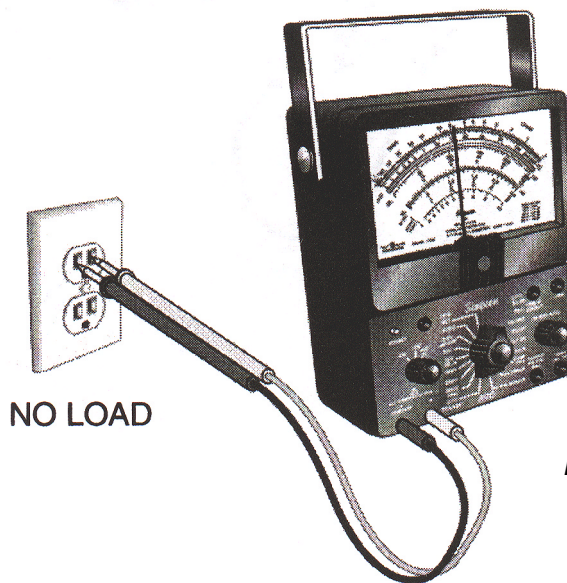

Figure 14
1. Insert the test leads into the slots of the AC outlet (see Figure 14).